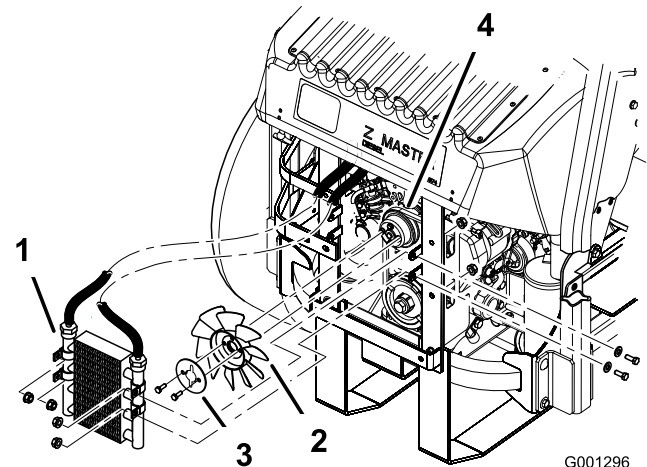

Figure 67
5. Remove the 4 bolts holding the oil cooler and position the oil cooler to the side (Figure 67).
6. Remove the 2 bolts holding the fan and fan plate to the machine (Figure 67).
10. Install the fan and fan plate to the machine with the 2 bolts previously removed (Figure 67).
11. Install the oil cooler with the 4 bolts previously removed (Figure 67).